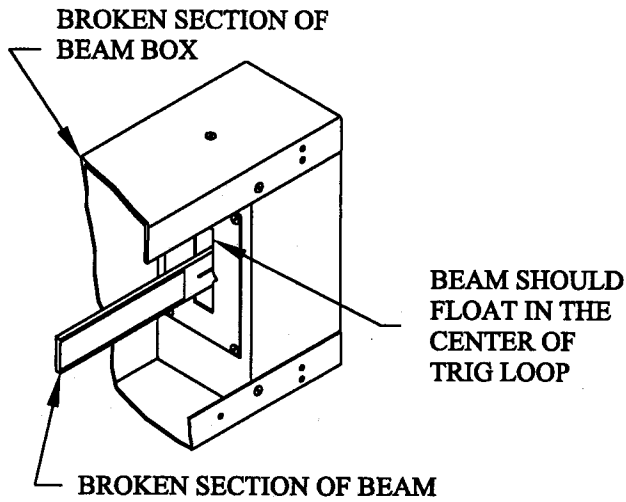
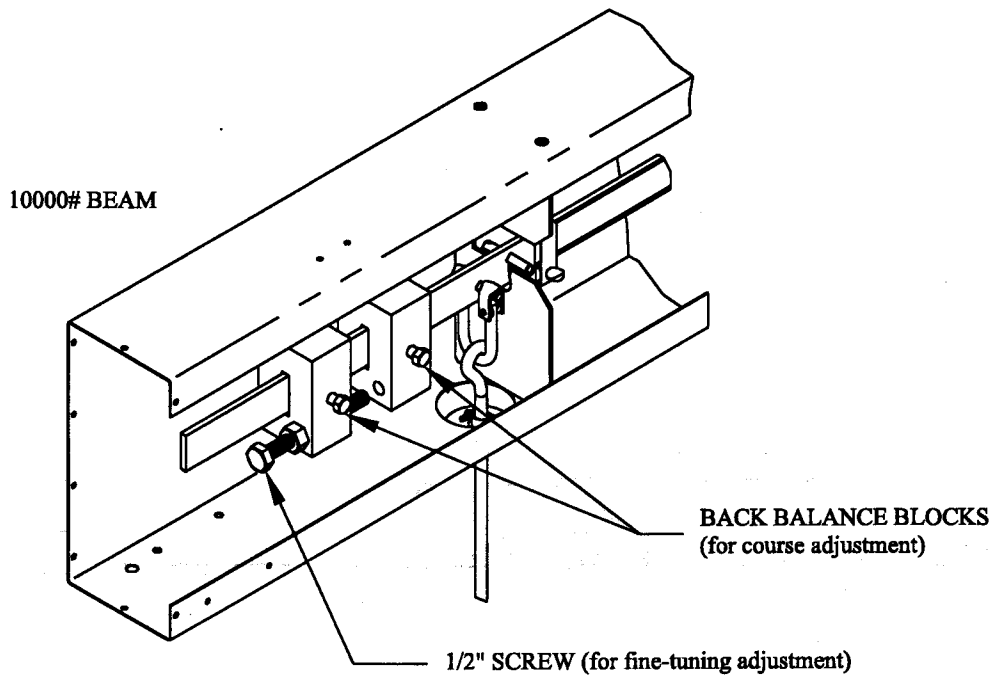

FIG. 4A
FIG. 4C
STEP 4. Adjust the back balance block on the beam so that the beam floats in the center of the trig loop. Tighten the hex bolt with a 9/16" wrench to lock the block on the beam. Make fine adjustments with the 1/2" all threaded screw and tighten with a 3/4" wrench snugly. (Do not overtighten). See Fig. 4A & 4B. There are two back balances on a 10000# & 20000# beam. See Fig. 4C.